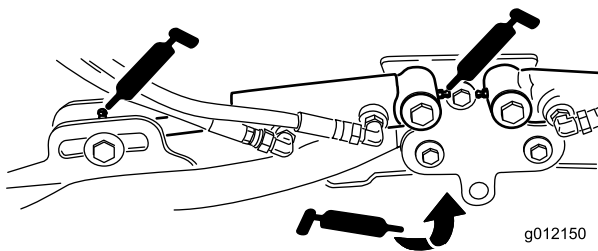

Figure 67
- Cutting-unit lift-arm cylinders (2 each) (Figure 67)
- Lift-arm pivots (1 each) (Figure 67)